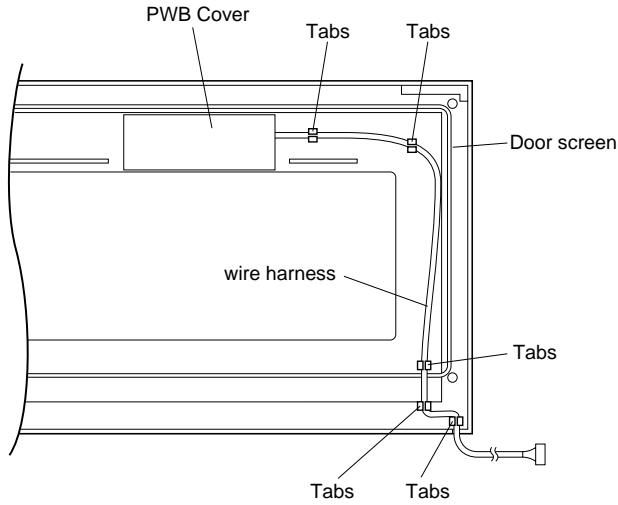

Figure C-10. Routing of wire harness
Before the door panel is reinstalled to the door screen assembly, make sure that the wire harness is held by the five (5) pairs of tabs on the door screen as shown in Figure C-10.